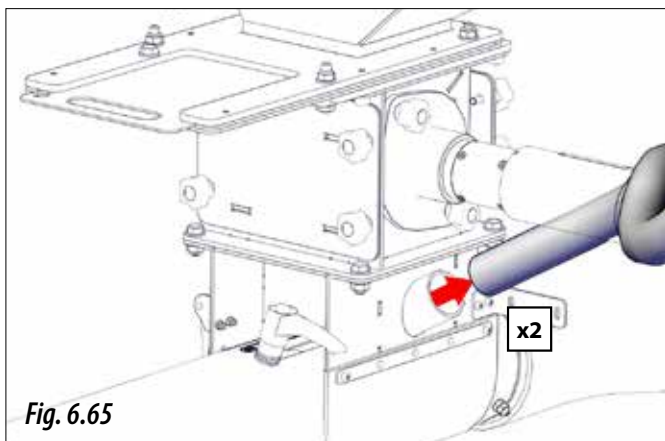

Fig. 6.65
**DACĂ UTILAJUL ARE UN SISTEM DE ÎNGRĂȘĂMÂNT CONVENȚIONAL SAU MICROGRANULAT, PENTRU EFECTUAREA TESTULUI DE CALIBRARE, TREBUIE SĂ DECONECTAȚI CELE DOUĂ TUBURI DIN SISTEMUL DE MICRO ȘI/SAU ÎNGRĂȘĂMÂNT DIN CUTIILE DE COLECTARE (FIG. 6.65), ORIENTAȚI TUBUL CĂTRE UN SAC SAU UN CONTAINER.**